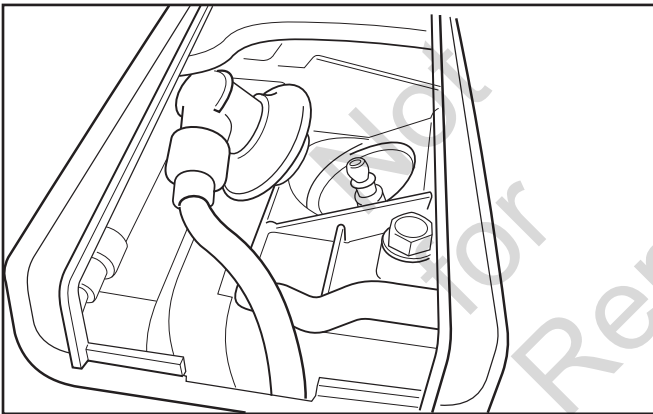

Figure 9
3. Clean area around spark plug and remove spark plug boot (Figure 9).